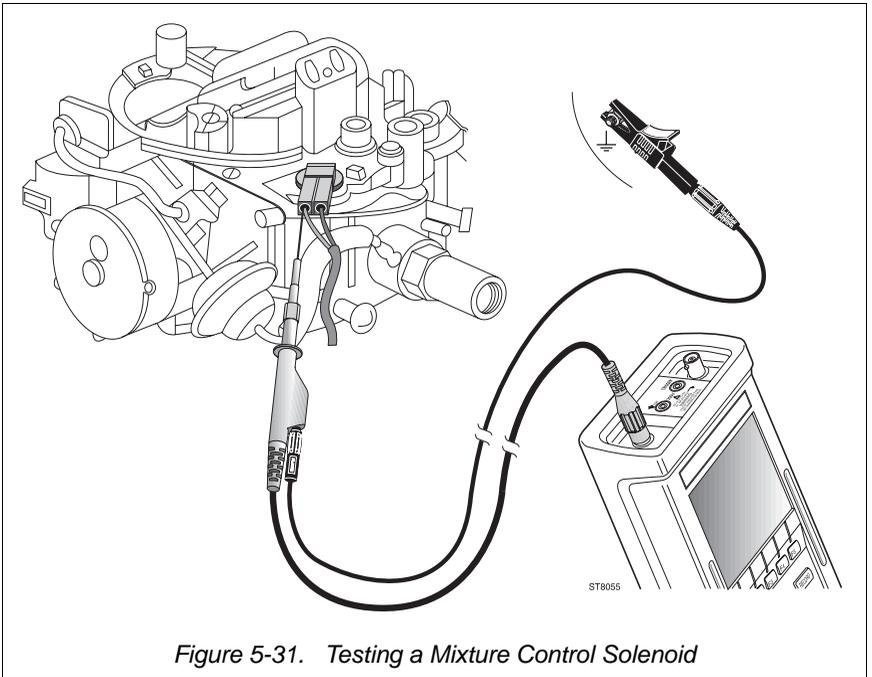

Figure 5-31. Testing a Mixture Control Solenoid
④ Connect the test leads as displayed by the test tool's Connection Help and shown in Figure 5-31.